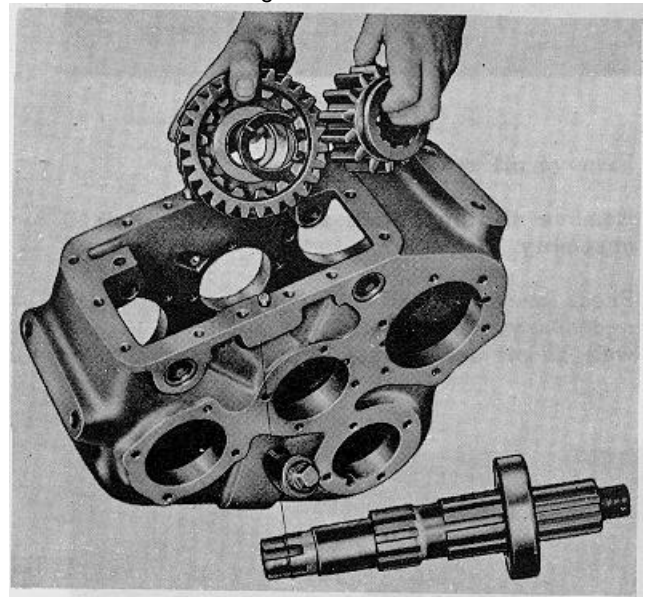

Fig. 18
30. Lift out sliding gear, drive gear and Spacer (Fig. 18). Remove front bearing from shaft.